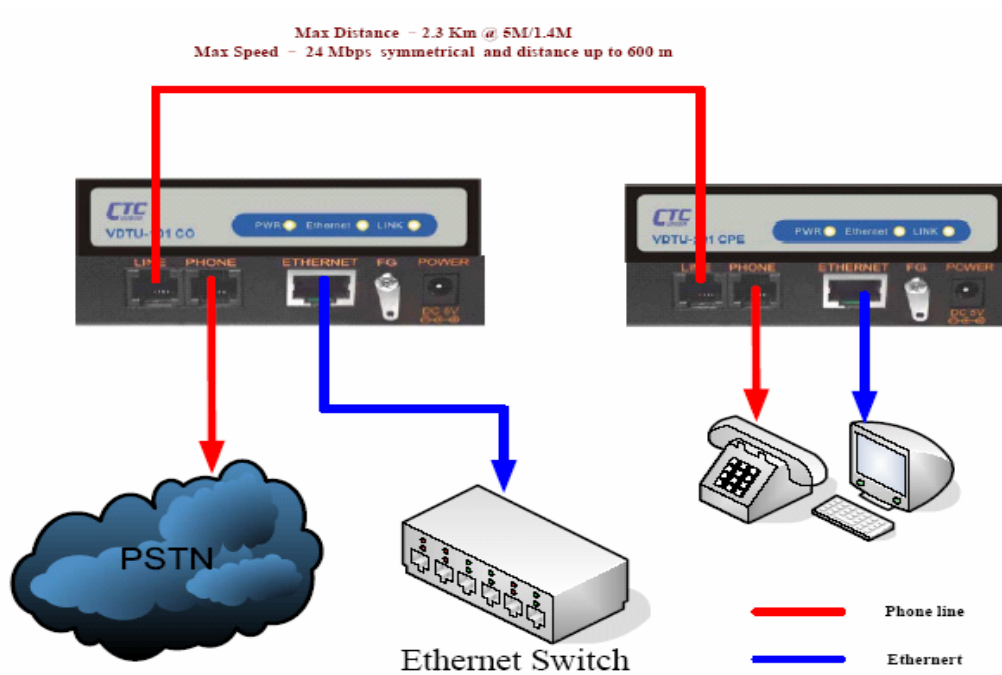

Figure 1.0 VDSL Point to Point application
1. The Modem's RJ-11 ports supports max distance 1.9Km at 5M/5M or max speed 25M/25M symmetrical and distances up to 800m data service across existing phone wiring, without interfering with standard voice transmissions, easy-to-use does not require the installation of any additional wiring. Every RJ-11 modular phone jack in the home can become a port on the LAN. Networking devices can be installed on a single telephone wire that can span within 1.9Km or 800m (depend on speed) between the two farthest points. (**Figure 1.0**).